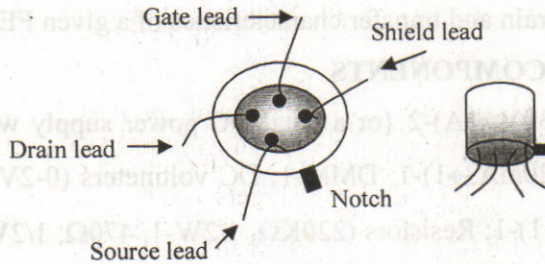

Fig.5.1
1. Identify the leads of given FET with the help of bottom view, shown in Fig.5.1.